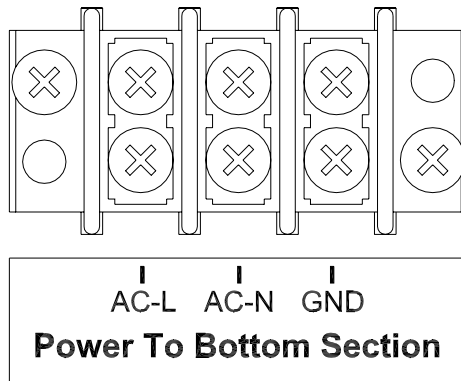

Figure 6 Power to Bottom Section Connections
3. Connect the cable to the terminal block labeled **Power to Bottom Section** according to figure 6.